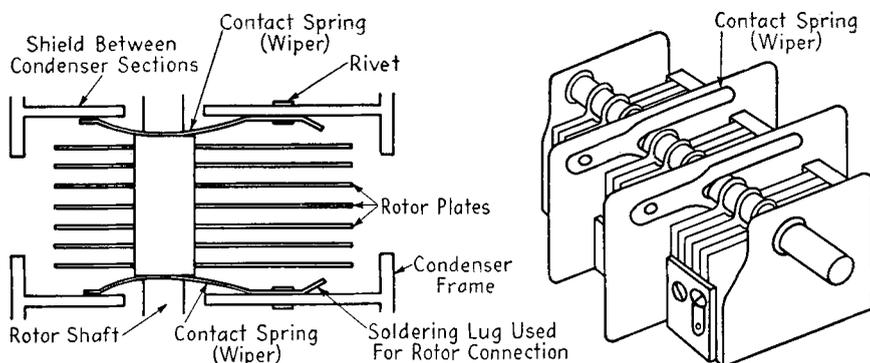

FIG. 14-17. Location of contact springs (wipers) for the rotor plate connection on a variable condenser.
**Servicing condenser contact springs.** Another common trouble with tuning condenser gangs develops in the contact springs, often called "wipers." Figure 14-17 shows the location of this item. The wiper makes contact between the rotor plates and the condenser shields that are grounded. Sometimes a ground wire is soldered to the contact spring, and sometimes no wire is connected. In either case, when dirt gets between the contact spring and the rotor, there will be resistance between the rotor plates and the ground. This may cause noisy reception, and even no re-